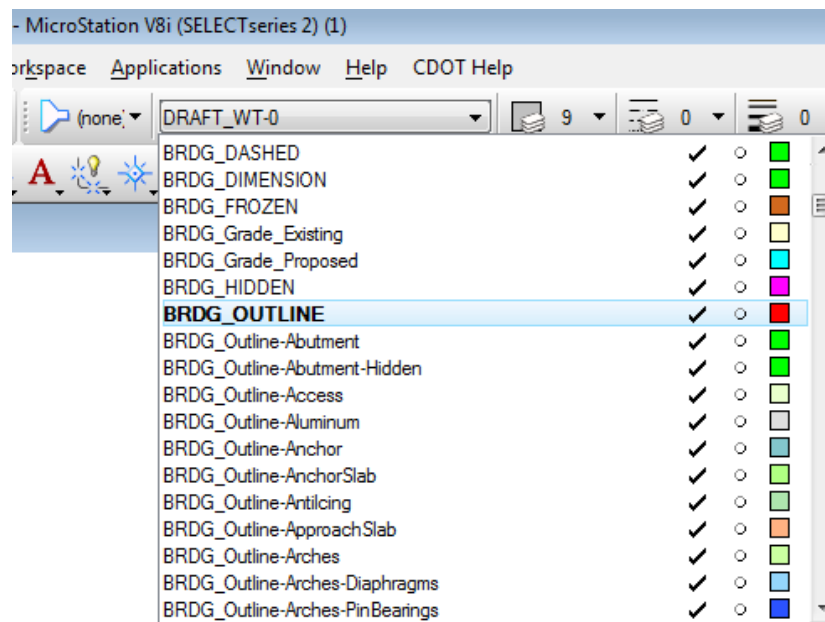

Fig. B.5-1 Active Level Selection
- Select the level from the Attributes tool box, as shown in Fig. B.5-1.